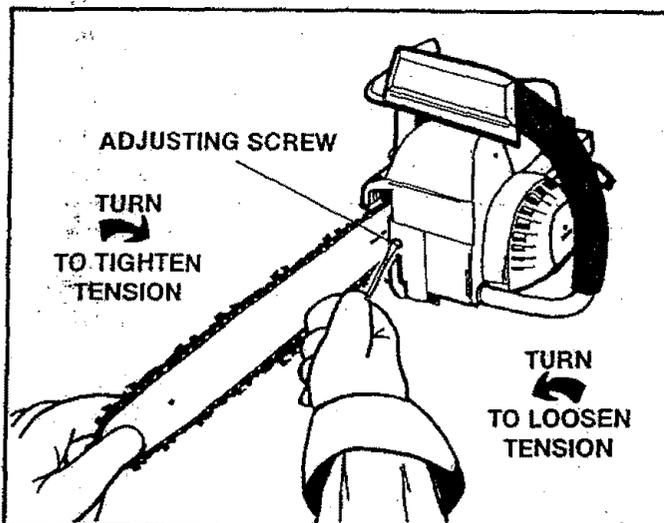

Figure 10
- a. Hold the tip of the Guide Bar up and turn the Adjusting Screw clockwise just until the chain does not sag beneath the Guide Bar. Figure 10.